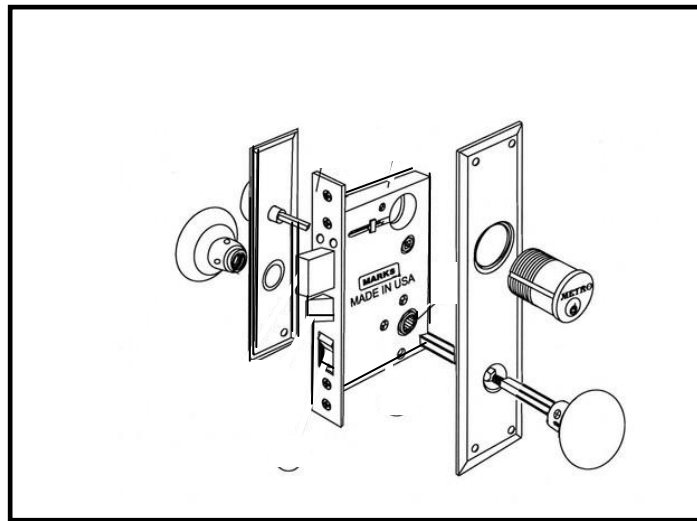

FIGURE 5.4
- 5.4 FIGURE 5.4 below is a sketch of a lock. Study the sketch and answer the questions that follow.